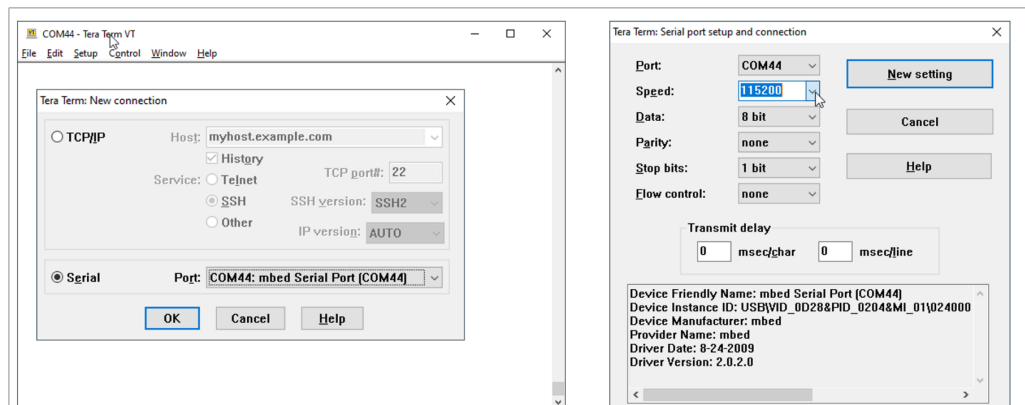

Figure 40. Configure TeraTerm
2. Open TeraTerm. Click **Serial** option and select from the drop down list the COM port number assigned to your FRDM-K64F. Then go to Setup > Serial Port and configure the terminal to 115200 baud rate, 8 data bits, no parity and 1 stop bit and click OK as shown in Figure 40: